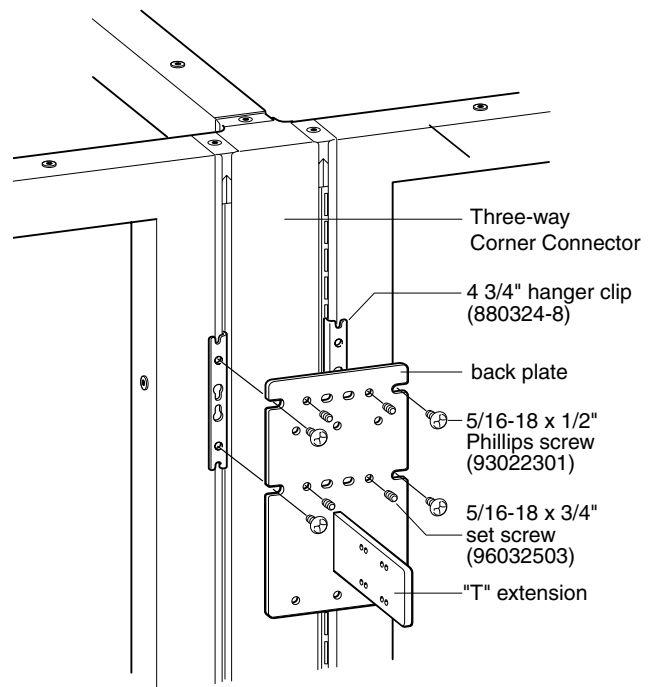

Figure 2
1. On the back of a Three-way Corner Connector, engage two 4 3/4" hanger clips into the left and right hand slotted hanger frames of the connected frames. Make sure both clips are at equal heights and are firmly seated in the hanger frame. (Figure 2)
2. Align the notches on the sides of the back plate of the Power/Data Bracket with the weldnuts on the clips. The Power/Data Bracket should be oriented such that the "T" extension is lower than the hanger clips. Fasten bracket to clips with four 5/16-18 x 1/2" Phillips screws provided. Tighten screws securely. (Figure 2)
3. Install the nylon tipped 5/16-18 x 3/4" set screws into the four tapped holes in the back plate of the bracket. Adjust the set screws to keep bracket firmly seated against the back of the Three-way Corner Connector. (Figure 2)